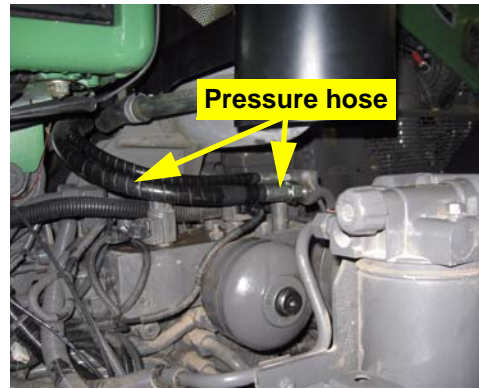

Figure 8a: Hydraulic pressure location
- a. Locate the pressure hose on the right hand side above the steps (Figure 8a).